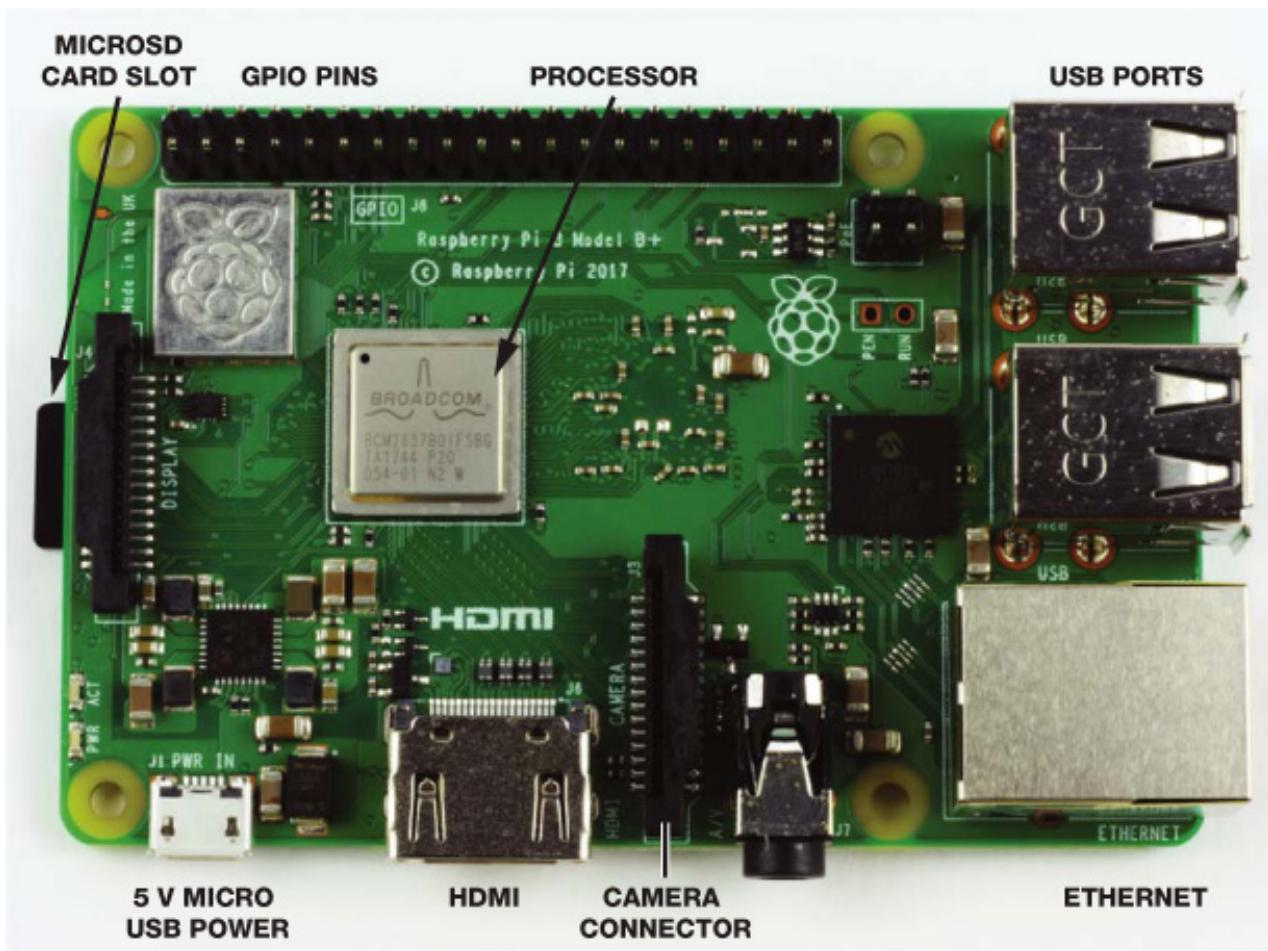

FIGURE 1-3 A top view of the Raspberry Pi 3 Model B+
Unbox it, and you'll find a bare-looking board with all sorts of components sticking out of it. If you have a Pi 3 B+, it should look exactly like Figure 1-3. Later versions might
1. Unbox your Raspberry Pi and plug your microSD card into the slot at the bottom of the board (see Figure 1-3 for a reminder of where this is). Make sure it's pushed all the way in. Some models of Pi (the 1 B+ and 2 B) make a “click” sound when the card is inserted properly, but the later 3 B/B+ does *not*.